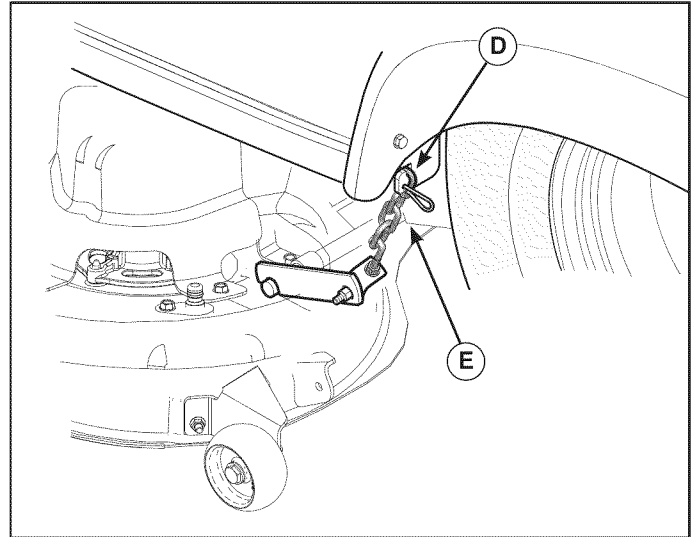

Figure 19
6. Remove the cotter pin (D, Figure 19) and lift chain (E) from the hook in tractor frame. Repeat for the other side.
5. Install the lift chain (**E**, Figure 19) onto hook in tractor frame and secure with cotter pin (**D**). Repeat for the other side.